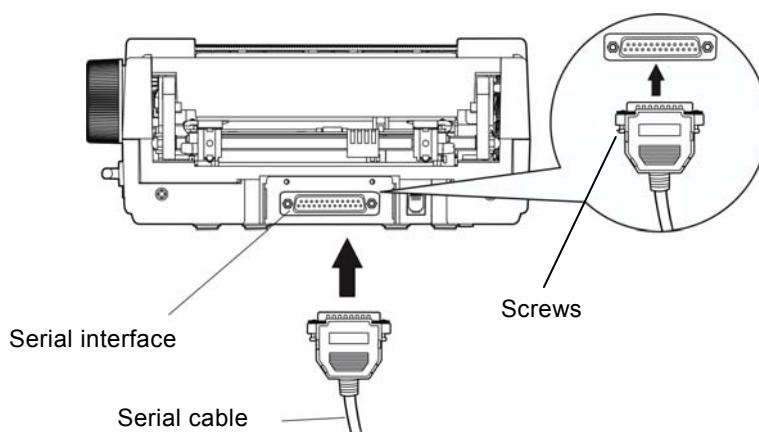

Figure 1-12 Connecting the serial cable
1. Make sure that the computer and the printer are both turned off, connect the serial interface cable to the serial interface and tighten the screws (As shown in Figure 1-12)